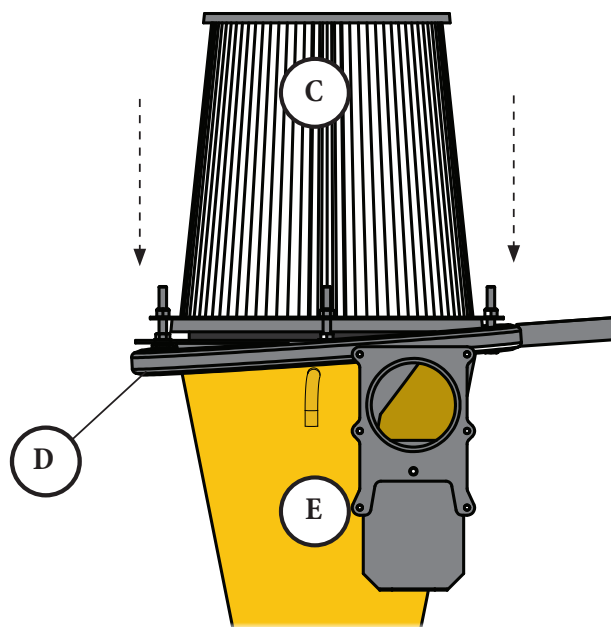

FIG. 10
Open and slide the Ring Clamp (D) over the assembly so that it rests outside the upper flange of the Cyclone (E) [FIG. 10].